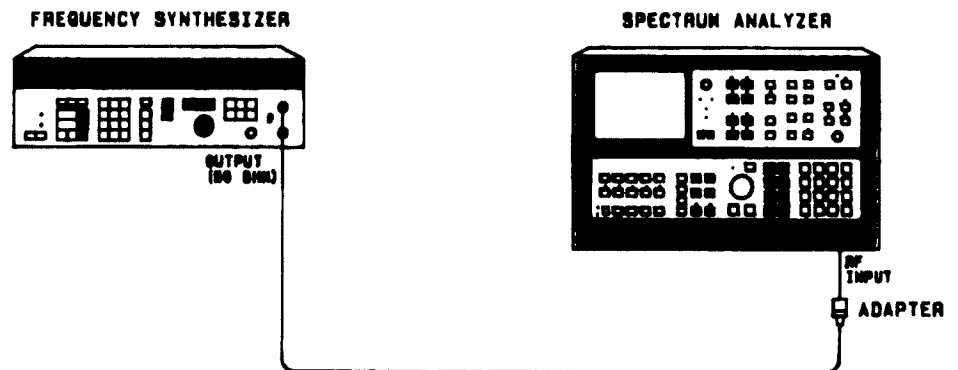

Figure 2-11. Amplitude Fidelity Test Setup
2. Connect equipment as shown in Figure 2-11.